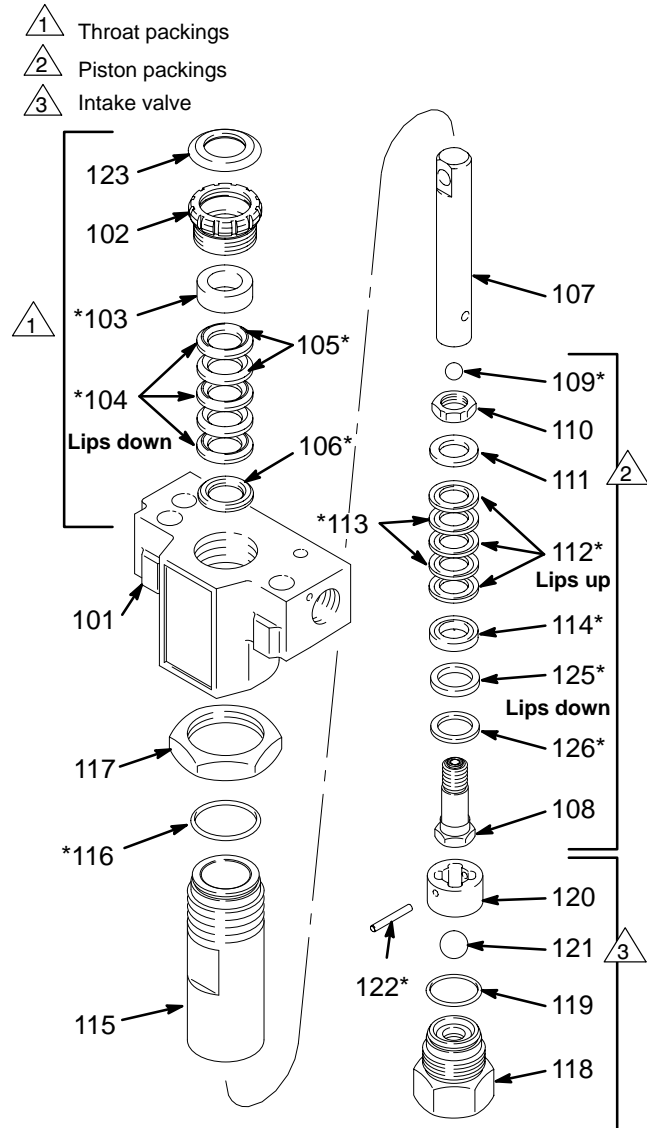

Fig. 18
Disassembling the pump (See Fig. 18.)
NOTE: Alternate plastic and leather packings. See Fig. 18. The lips of the throat V-packings face down. The lips of the piston V-packings face up. Incorrect installation damages the packings and causes pump leakage.
1. Check the outside of the piston rod (107) and the inside of the cylinder (115) for wear. Replace worn parts to ensure a good seal with the new packings.
2. Stack these parts onto the piston valve (108) one at a time: the backup washer (126*) and u-cup (125*), the female gland (114*), alternately three plastic (112*) with two leather packings (113*), and the male gland (111*). See Fig. 18.